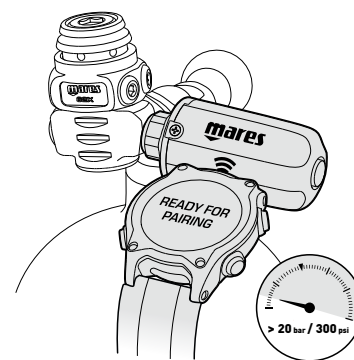

Fig. 10
- Place Sirius against the tank module as shown in Figure 10. Sirius must touch on the tank module.